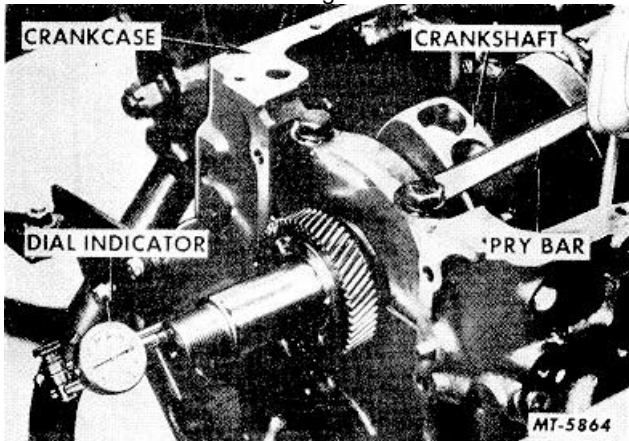

Fig. 76 Checking Crankshaft End Play
66. Using dial indicator, check and record crankshaft end play (Figure 76). End play exceeding specified limits (See SPECIFICATIONS) indicates that crankshaft thrust bearings or thrust faces are worn.